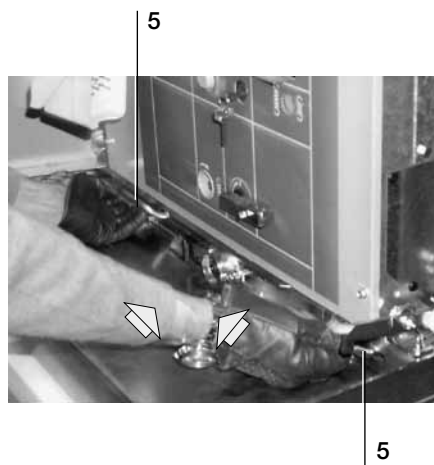

Fig. 13b
- (1) Switching from circuit-breaker withdrawn to “isolated” position
- place the circuit-breaker handles towards the back of the module until the circuit-breaker locks with the handles (5) (fig. 13b) clicking laterally, inserting themselves into the slots;
- (2) Switching from “isolated” to “withdrawn” position
- move the two handles (5) (fig. 13b) at the same time towards the circuit-breaker centre and by means of the handles gradually pull the circuit-breaker outside on the truck.